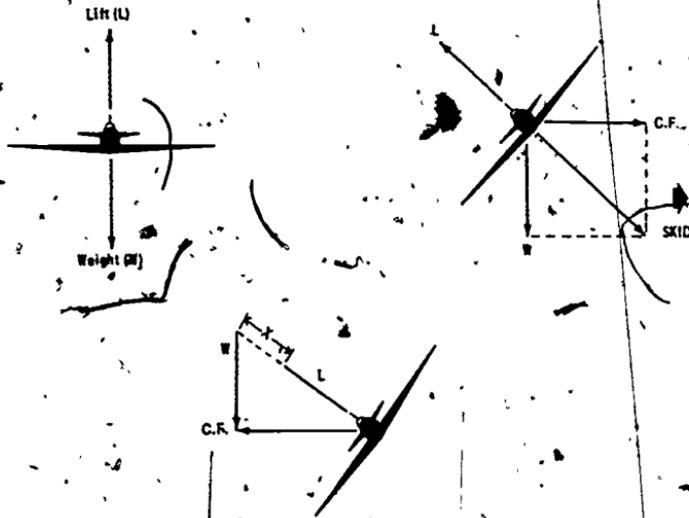

Figure 49 Effect of Centrifugal Force on a Turning Aircraft. Lift Must Be Increased to Maintain Altitude
Let's take another look at turns, only this time we'll use a different approach. Take a look at Figure 49. In section A, the aircraft is shown in level flight, and the lift and the weight (L and W) are equal. In section B, the aircraft is in a bank with the same amount of lift (L) and weight (W). But now, we have centrifugal force (CF) as well. Hence, we have to compute a resultant, and the resultant is greater than the lift. Now, take a look at section C. We have moved the forces so that the difference may be more readily appreciated. The centrifugal force is moved to the inside of the bank, and the weight force is also drawn on the inside. In order for the aircraft to maintain altitude, the lift force must extend to the point where the weight force begins. In other words, we're missing
Take another look at Figure 49. What will the rudder do in turning flight? The rudder controls movement about the vertical axis, therefore, moving the rudder will have no effect except to cause the nose of the aircraft to drop along a line parallel to the wing—that is, on a diagonal line. The ailerons, likewise, can have no effect other than to hold the aircraft at the proper bank, if that is necessary. As a matter of fact, as we'll discuss shortly, a slight amount of opposite aileron is usually necessary in executing a proper turn. With respect to the rudder, however, once the turn has begun and the drag of the lowered aileron has been overcome, the pilot can remove his feet entirely from the rudder pedals and still continue to make a perfect turn. When he decides to come out of the turn, he uses opposite aileron (the aileron which is not in the direction of the turn he is making), and he has to use opposite rudder. For example, if the pilot is coming out of a right turn, he applies left rudder and left aileron.